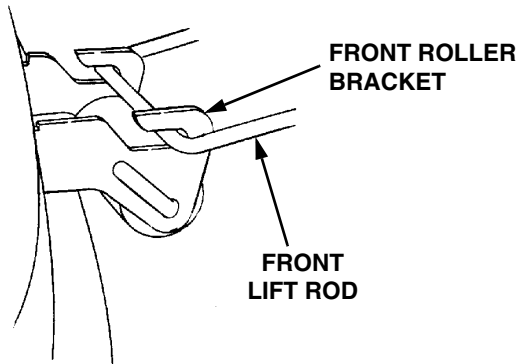

Figure 30
5. While holding the front lift rod up, slide the mower deck forward until the rod aligns with both front roller bracket slots. Lower the lift rod into the front roller bracket slots and slide the deck rearward to engage the lift rod fully forward in the slots of the deck front roller bracket (See Figure 30).